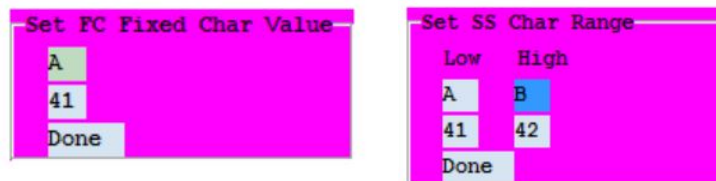

Figure 11-6: a) FC Value; b) SS Values
The FC type choice, **Figure 11-6.a**, only requires one value to be entered since a Fixed Character (FC) has the same upper and lower values. The Single Set (SS) type choice, **Figure 11-6.b**, represents a single contiguous set of any length and hence requires both lower an upper bound